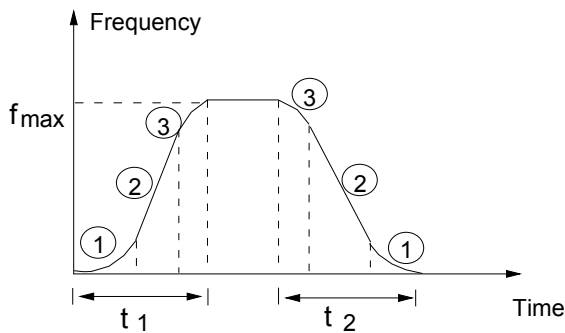

Fig. 5-14 Acc/Dec S Curve
The output frequency increase or decrease according to S curve, see Fig. 5-14.
S curve start time is illustrated in Fig. 5-14 as ①, the change rate of output frequency is increasing from 0.
S curve rising time is illustrated in Fig. 5-14 as ②, the change rate remains the same.
S curve end time is illustrated in Fig. 5-14 as ③. The change rate decreases to 0.